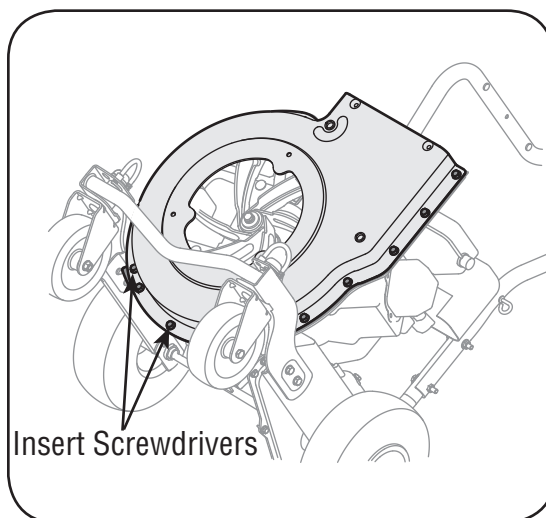

Figure 18
23. Place the outer housing against the inner housing. See Figure 18. Insert two screwdrivers into the holes to hold the blades in place while attaching the outer housing.